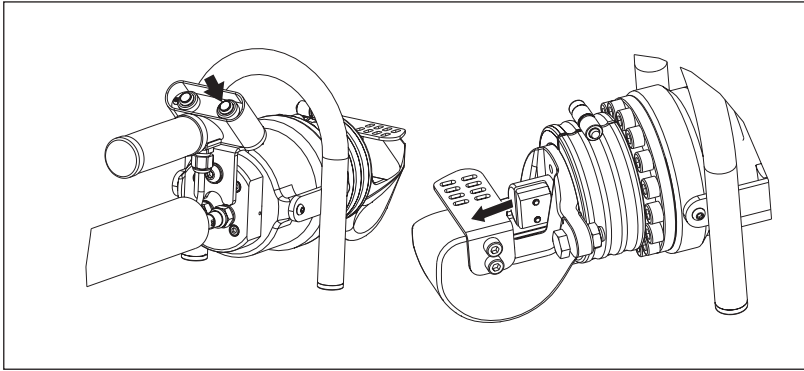

Figure 9, Operation - Advance/Cut
- Press and hold the **advance** push button to advance the piston and slide the moving blade forward. See Figure 9.